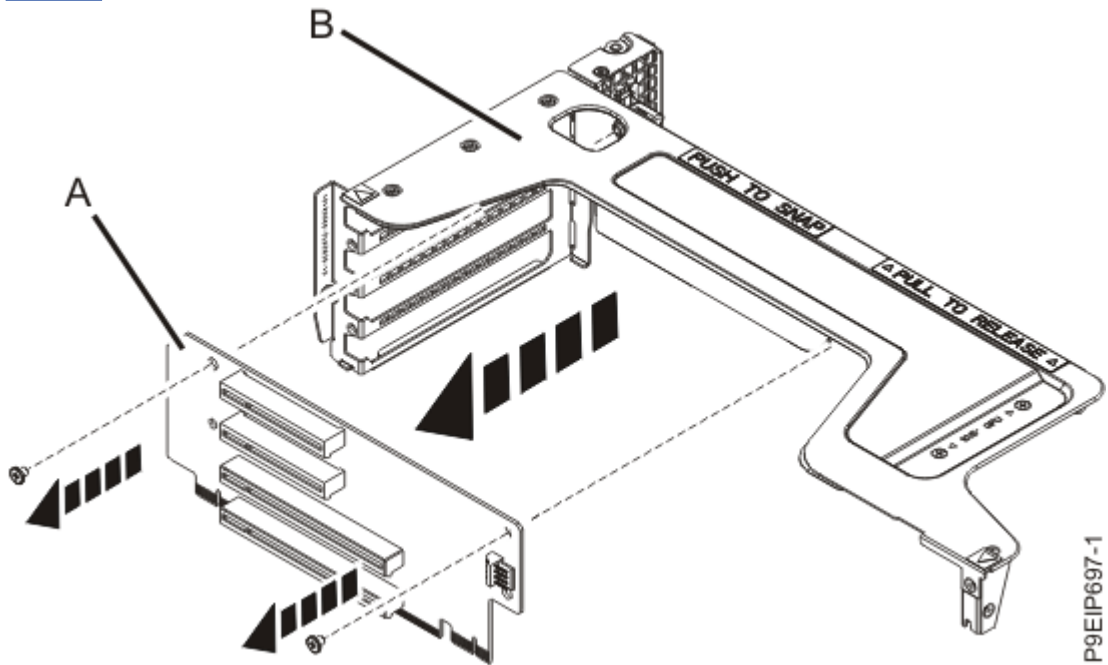

Figure 23. Removing position 3, 5, 6, and 7 riser card
- g) If the riser card for positions 3, 5, 6, or 7 needs replacing, remove it from the riser support. Remove the two screws that secure the riser card to the riser support as shown in Figure 23 on page 26.